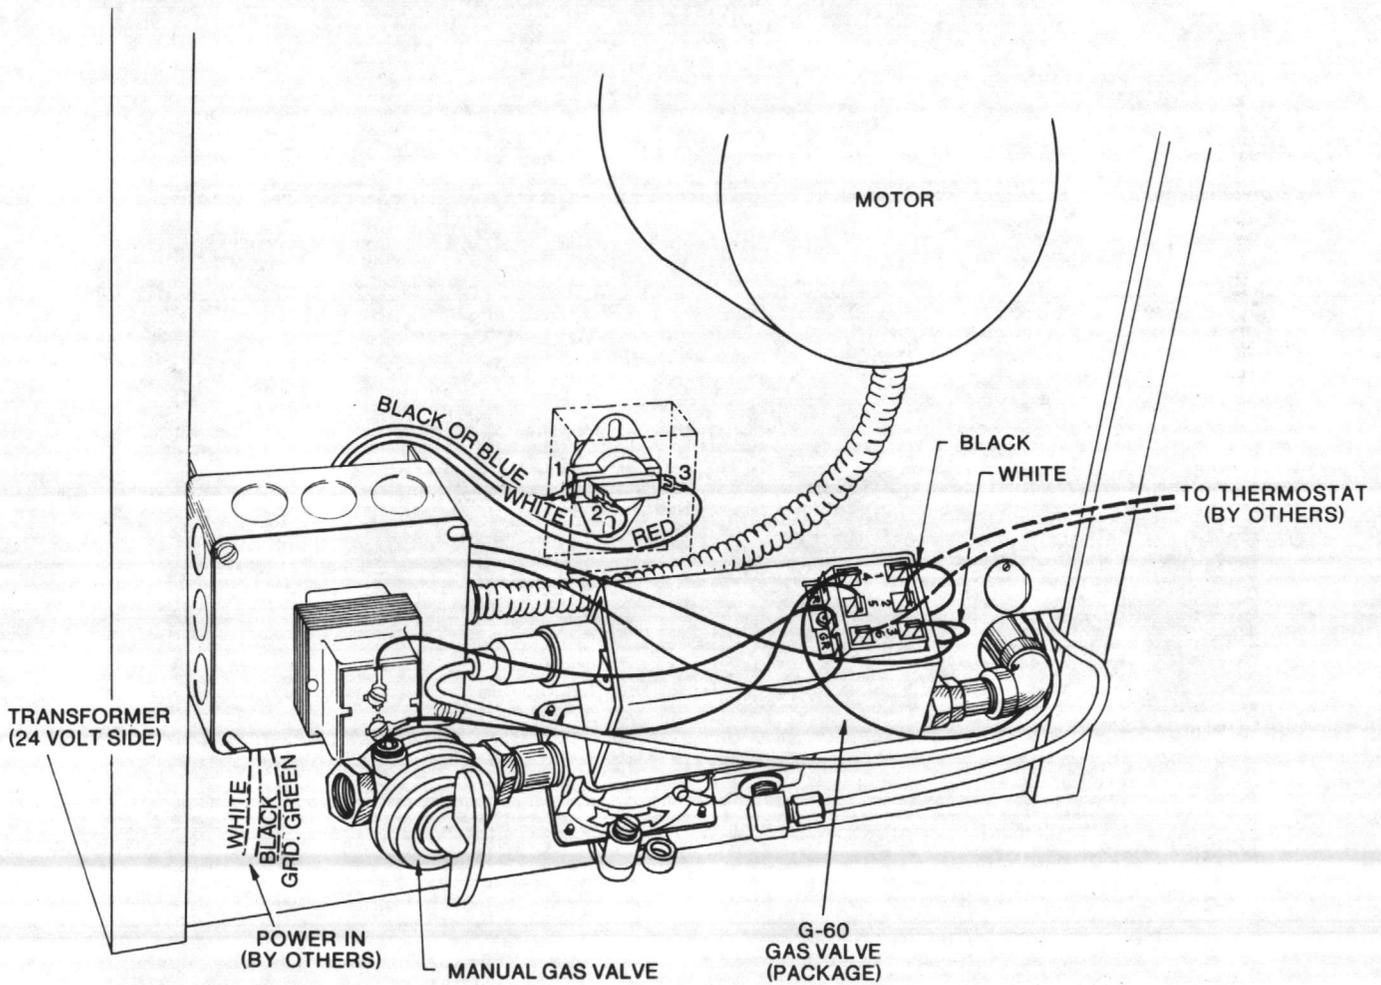

Figure 7 — Valve Transformer & Thermostat Connections
- b. **ELECTRICAL CONNECTIONS:** (See Figures 7, 8 & 9)